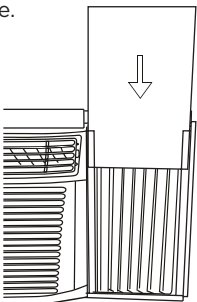

Fig.22
3. Slide the R1 insulation panel into the side curtain, the side with pattern should facing the indoor (Fig.22).